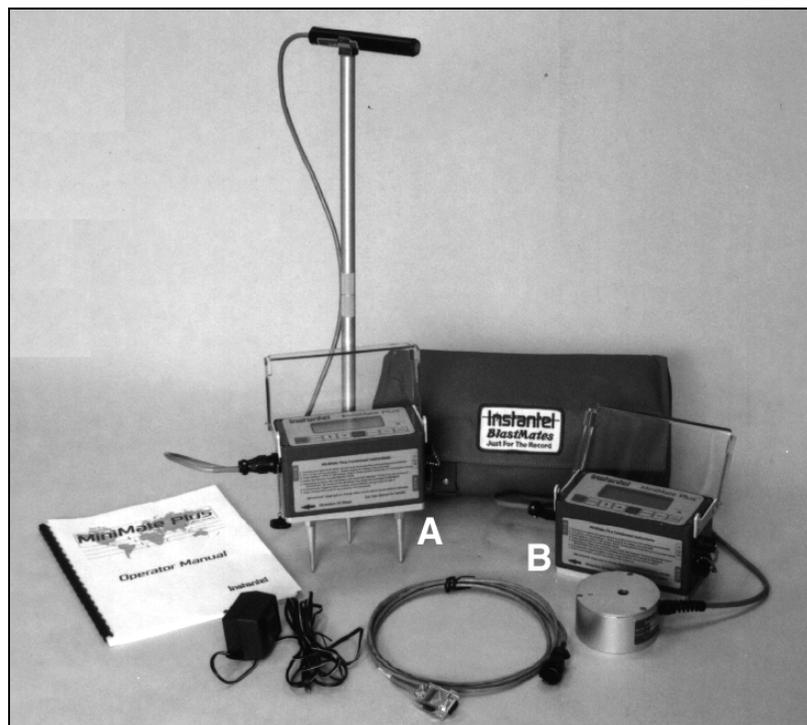

Figure 1.1 Minimate Plus Models and Accessories.
The Minimate Plus series of monitors includes two models based on the number of recording channels, as shown in Figure 1.1. The standard model offers four recording channels and a built-in standard transducer (A). The second model offers eight recording channels with your choice of external transducers and microphones (B). All models offer the level of performance and ease-of-use you expect from InstanTel monitors.